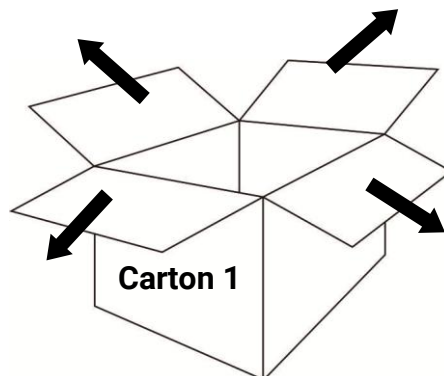

Fig 2.4-1
2. Open the **Carton 1** and remove the packing materials to take out the Console. (Fig 2.4-1)